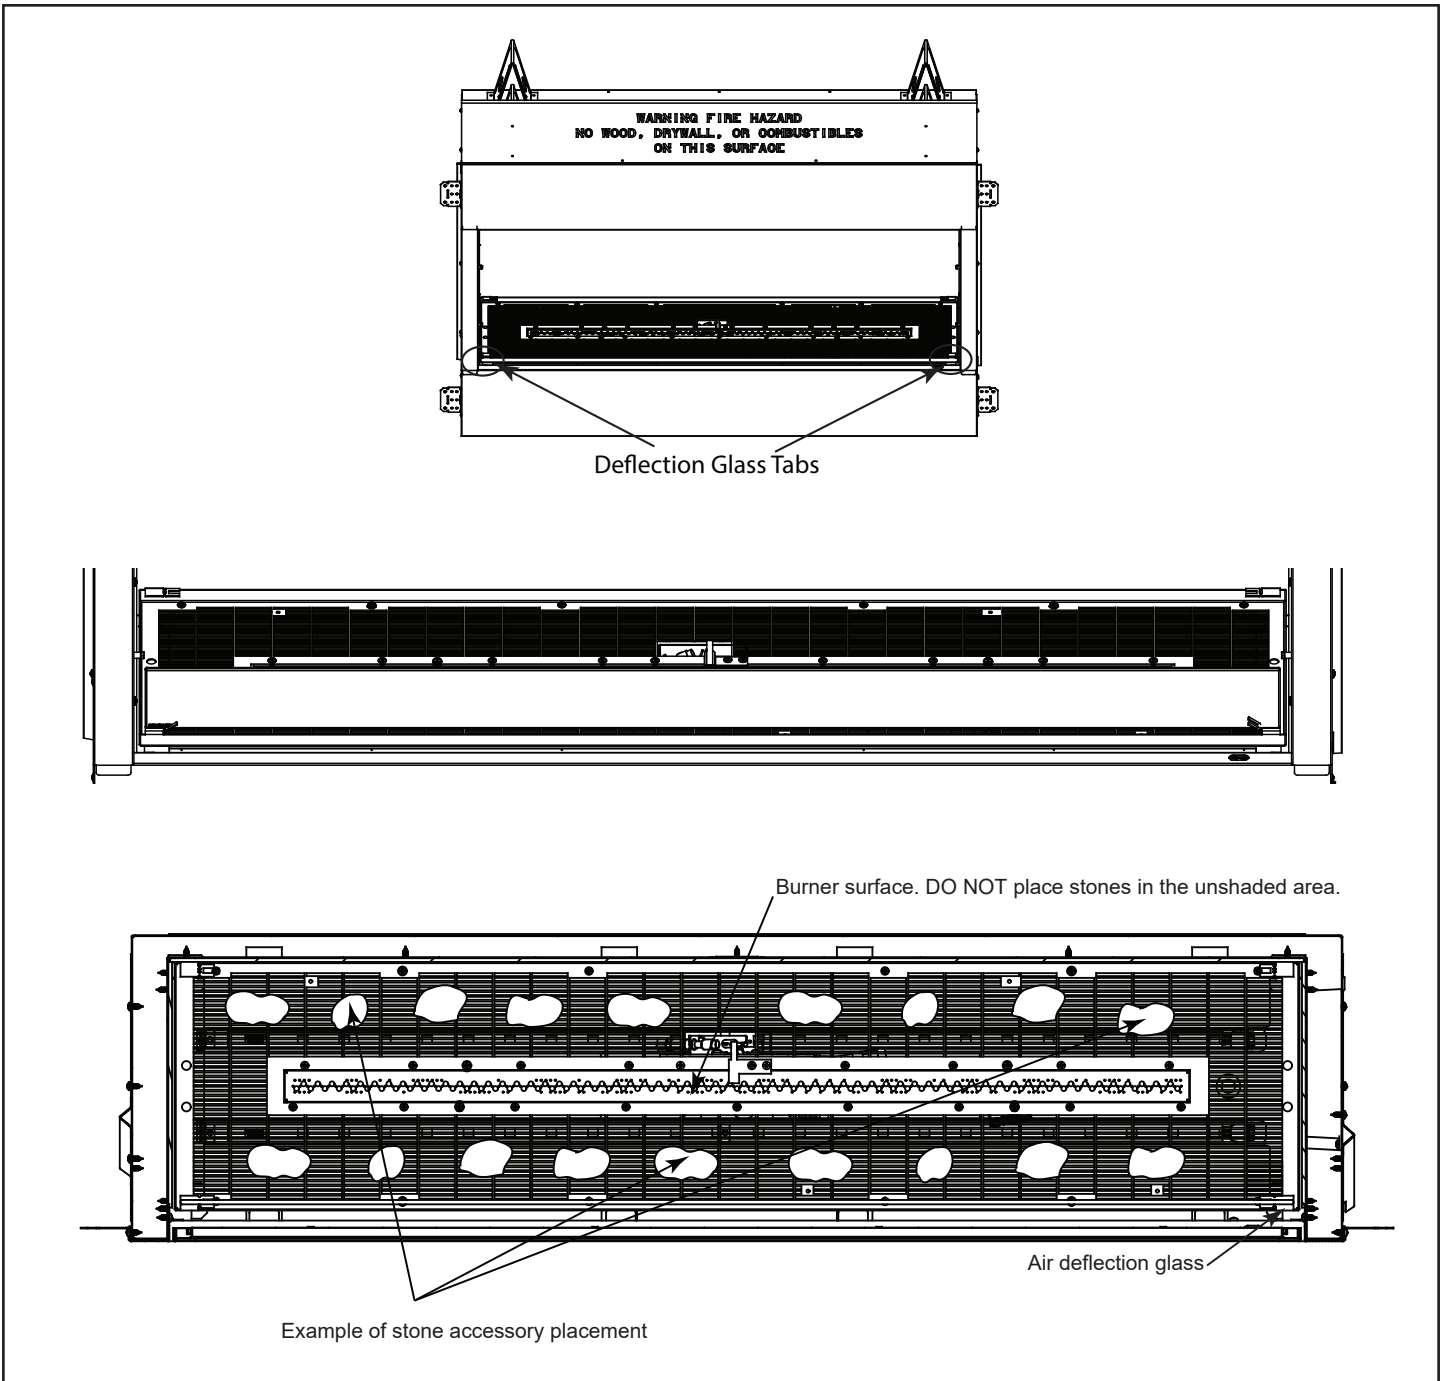

Figure 7.4– Air Deflection Glass and Stone Placement
**NOTE:** The air deflection glass must be installed prior to placing any crushed glass media, stone kit or log set. To install the air deflection glass simply place the edge of the deflection glass into the two position tabs (located at the front of the engine base) and slide into fingers until reaching the bottom of the tab slots, in front of the burner ports. The glass should stand upright, neither leaning forward nor backward. See Figure 7.4.
1. For best results, spread crushed glass media evenly over the entire floor and burner making sure the glass is not too thick over the burner ports (single layer only). See Figure 7.4.
2. Place the stones randomly in front of and behind the burner. **CAUTION: Do not allow stones to sit directly on burner or in flame.** See Figure 7.4.